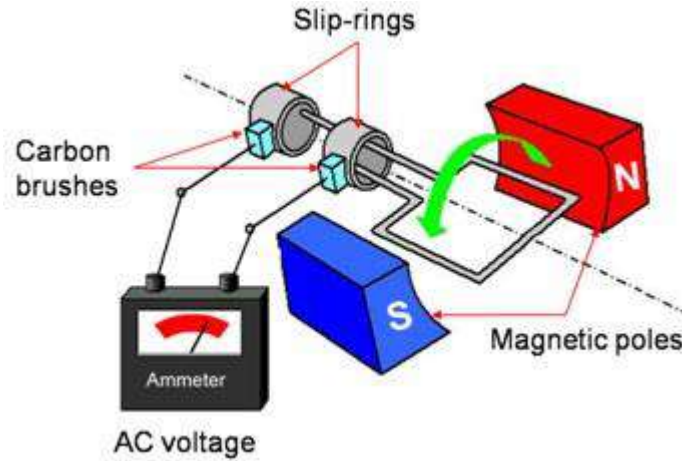

Figure 2.4.2 Construction and working of AC generator
An alternating current (AC) generator can also be used as a tachogenerator. It comprises of rotor coil which rotates with the shaft. Figure 2.4.2 shows the schematic of AC generator. The rotor rotates in the magnetic field produced by a stationary permanent magnet or electromagnet. During this process, an alternating emf is produced which is the measure of the angular velocity of the rotor. In general, these sensors exhibit nonlinearity error of $\pm 0.15\%$ and are employed for the rotations up to about 10000 rev/min.